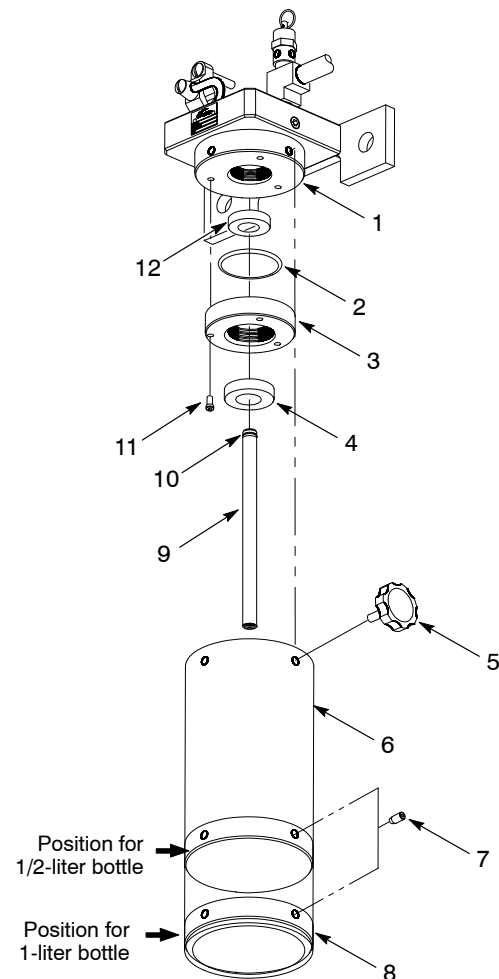

Figure 3 Ink Dot Reservoir Manifold
1. See Figure 3. Remove the thumb screws (5) securing the shroud (6) to the manifold (1).
- a. Remove the set screws (7) securing the end cap (8) at the 1-liter ink bottle position.
3. Remove the existing siphon tube (9) and gasket (12) from the manifold (1).
4. Insert the gasket (4) into the manifold adapter (3).
5. Make sure that the O-ring groove on the manifold adapter (3) is clean. Lubricate the O-ring (2) with petroleum jelly and install it into the O-ring groove.
6. Install the manifold adapter (3) to the manifold (1) using the screws (11). Tighten the screws securely.
7. Lubricate the O-ring (10) on the new siphon rod (9) with petroleum jelly. Install the siphon rod to the manifold and tighten hand tight.